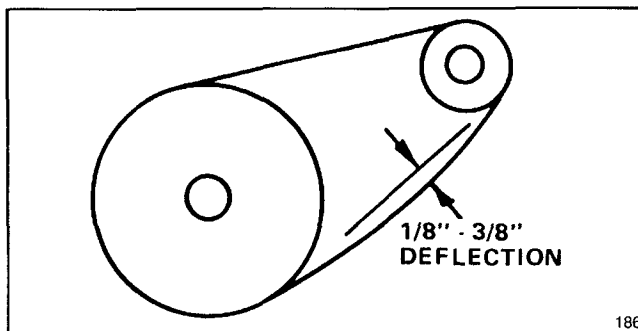

Figure 33
ADJUSTING DRIVE CHAIN (Figs. 33–36)
3. Check deflection of chain by lifting up on chain with moderate pressure at mid span. There should be 1/8–3/8" deflection (Fig. 33). If deflection is not as specified an adjustment is required.